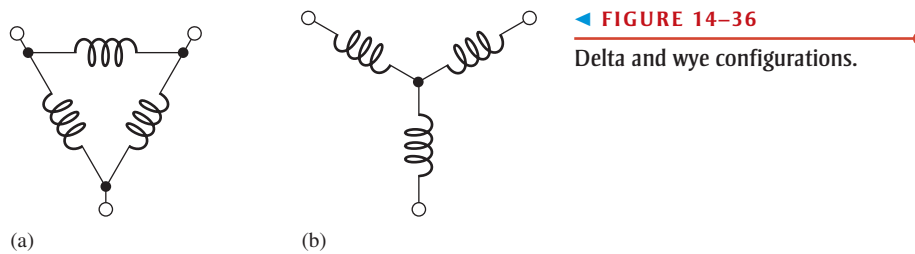

FIGURE 14–36
A three-phase transformer consists of three sets of primary and secondary windings. Each set is wound on one leg of an iron-core assembly. Basically, it is three single-phase transformers sharing a common core, as shown in Figure 14–35. It is possible (but more expensive) to connect three single-phase transformers together to achieve the same result. In a three-phase transformer, the three identical primary
► **FIGURE 14–35**
windings and the three identical secondary windings are connected in either of two ways, a delta (Δ) configuration or a wye (Y) configuration, to form a complete transformer unit. Delta and wye connections are shown in Figure 14–36.